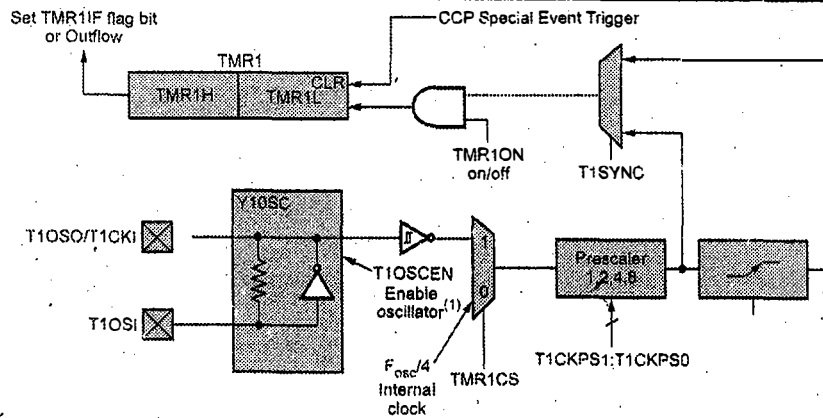

Fig. Q.2.1 : Timer 1 block diagram
- o Timer TMR1 has a completely separate prescaler which allows 1, 2, 4 or 8 divisions of the clock input. The prescaler is not directly readable or writable. However, the prescaler counter is automatically cleared upon write to the TMR1H or TMR1L register. A simplified block diagram of the timer 1 module is shown in Fig. Q.2.1.